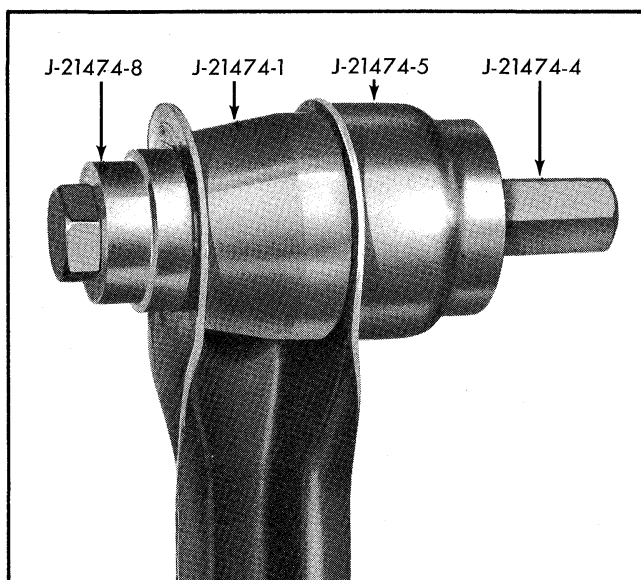

Fig. 3-28 Removing Bushing
2. Support arm and remove bushing using tool J-21474 as shown in Fig. 3-28.